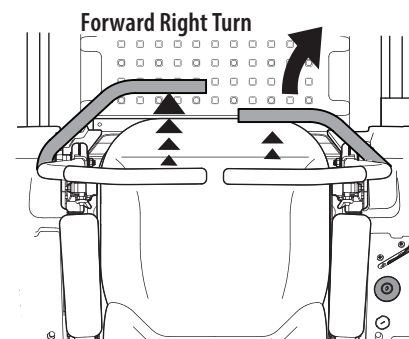

Figure 28
- To turn to the right, move the right drive control lever rearward of the left lever (Figure 28).